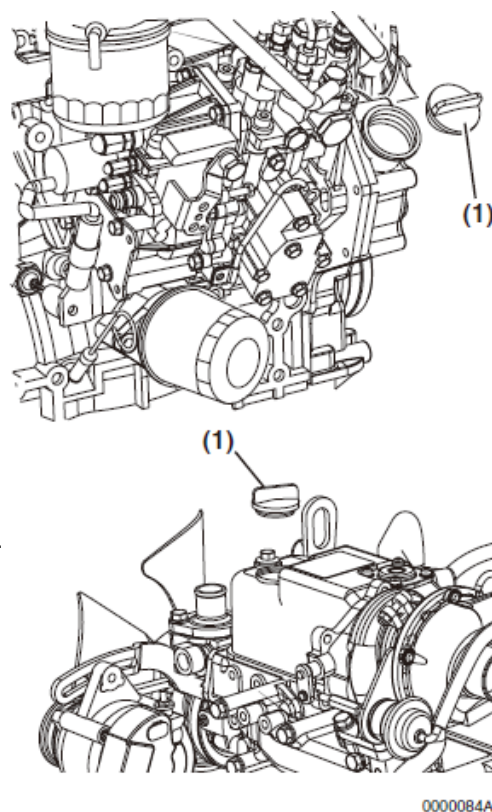

Fig.9-2
4. Remove one of the oil filler caps (**Fig.9-2, (1)**) to vent the engine crankcase and allow the engine oil to drain more easily.